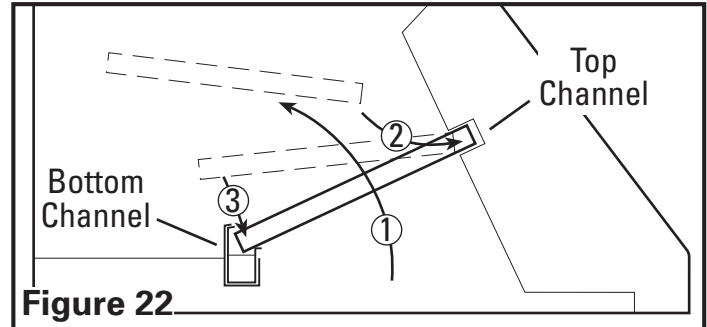

Figure 22
3. Install the baffle filters along with any spacer bars that are required by inserting the top of the filter into the top channel of the hood, then slide the bottom of the filter into the bottom channel. The filters have a top and a bottom. The bottom of the filter will have small drain holes. These holes must be facing down towards the grease trough to be effective. In models with spacers, it is easiest to install the spacer(s) first and the grease filters last (**Figure 22**).